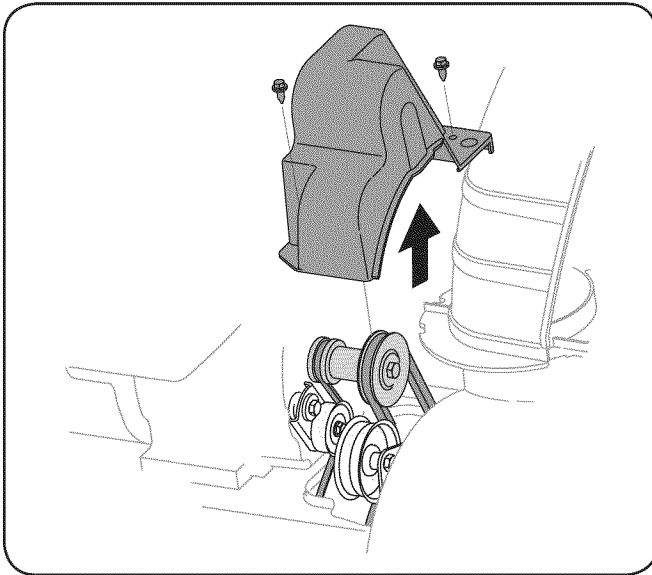

Fig. 7-1
2. Remove the plastic belt cover on the front of the engine by removing the two self-tapping screws. See Fig. 7-1.
- Remove the plastic belt cover on the front of the engine by removing the two self-tapping screws. Refer to Fig. 7-1.